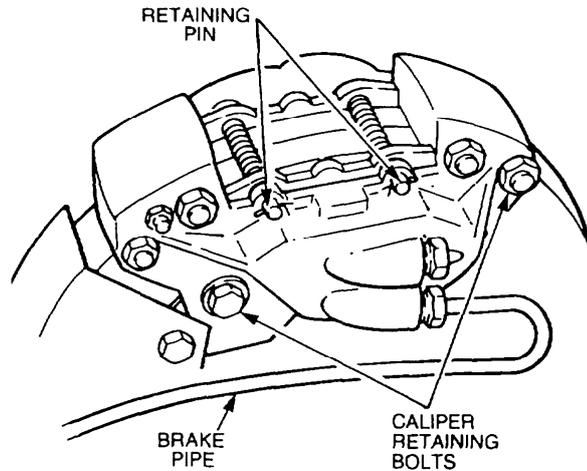

Figure 135 Brake Caliper Removal
- g. Remove the disc pad retaining pins from the caliper (Figure 135).